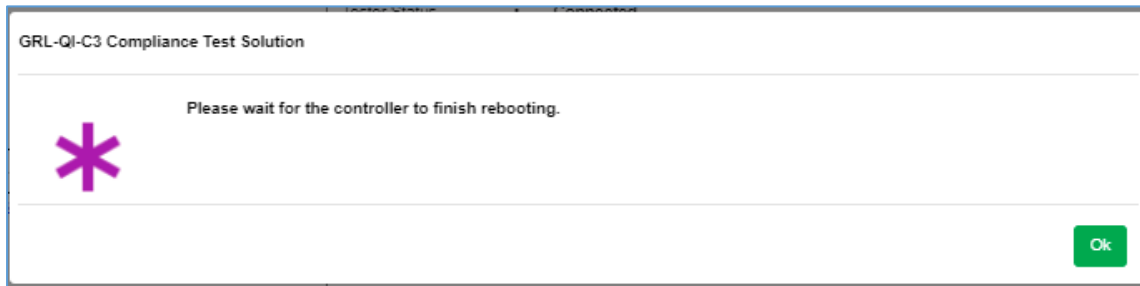

FIGURE 7.6: UPDATE GRL-C3 E-LOAD FIRMWARE
- Once the E-Load firmware update process has completed successfully, click “Ok” for the GRL-C3 tester hardware to power cycle and reboot (Figure 7.6 below).